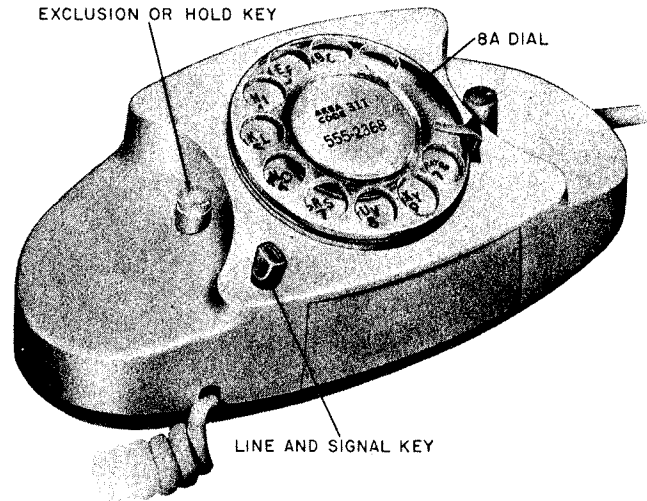

Fig. 6 — 712B Telephone Set — Without Handset
2.17 The 712B telephone set (Fig. 6) is not equipped with an internal ringer. When a ringer is required, an E1-type external ringer may be used.